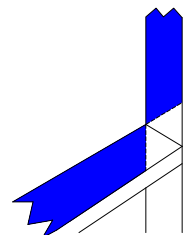
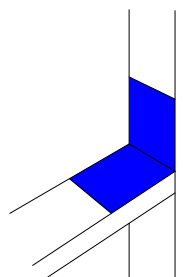

Fig. 1
Fig. 2
6. ALL OPEN EDGES OF CORNER WRAP (Fig. 1) TO BE COVERED WITH STRIPS OF WRAP WHICH SHALL BE TAPED INTO PLACE (Fig. 2).